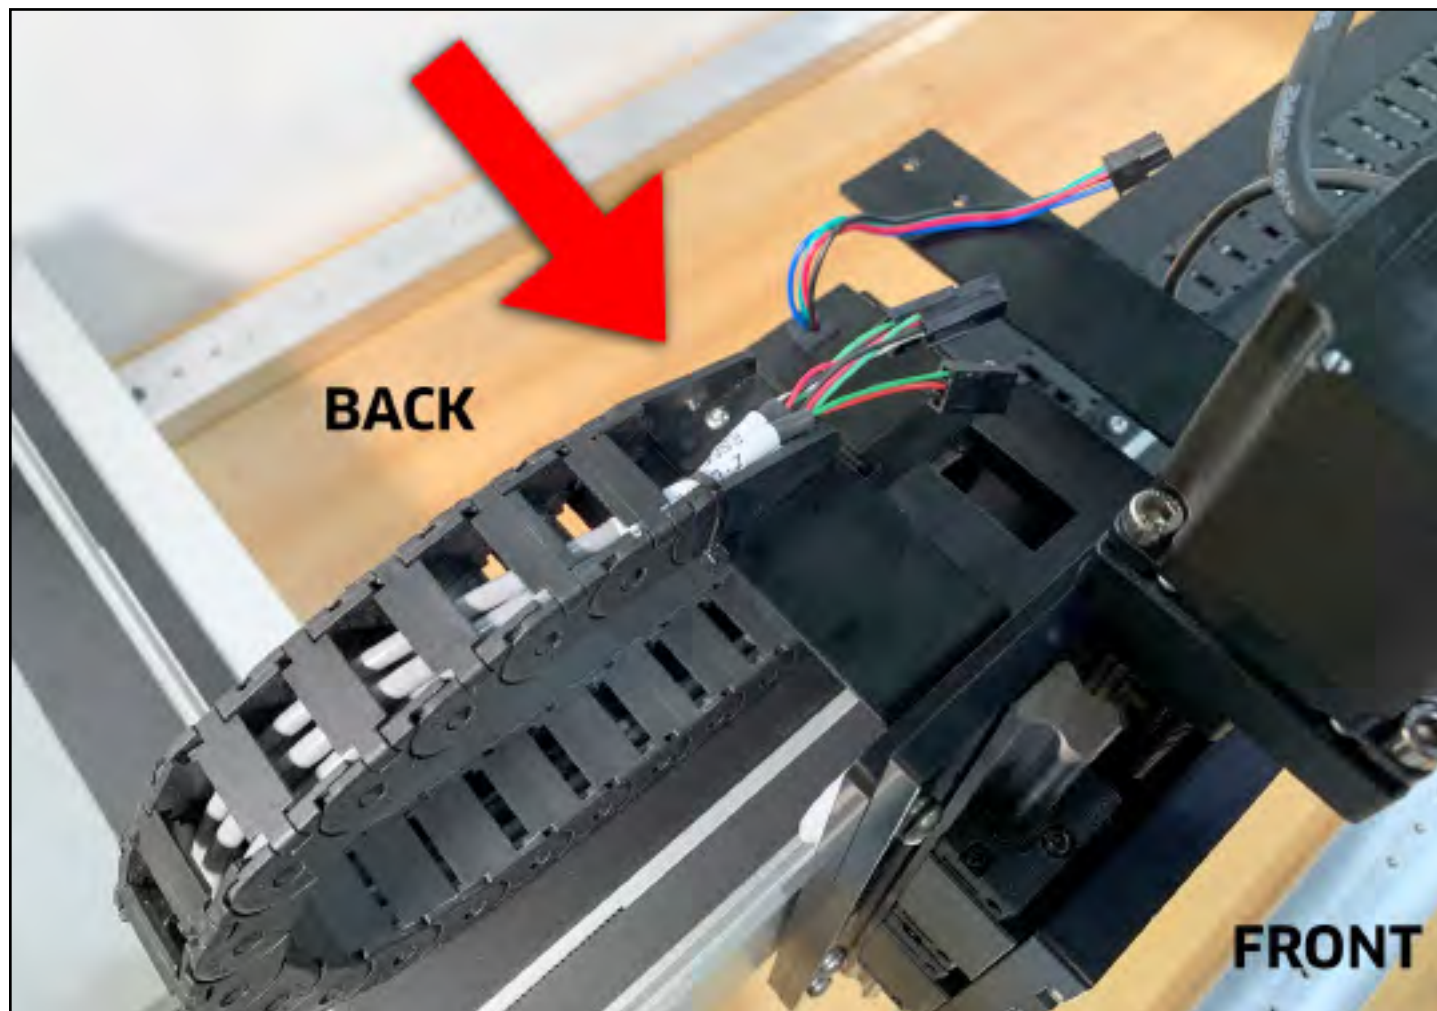

Figure 6-2
1. Position the X-Axis drag chain along the top of the X-Axis gantry. See **Fig. 6-2**.
1. Use a 2mm hex key and two (2) M3×6mm BHCS to secure the X-Axis drag chain to the data drag chain head bracket. Fully tighten. See **Fig. 6-2**.